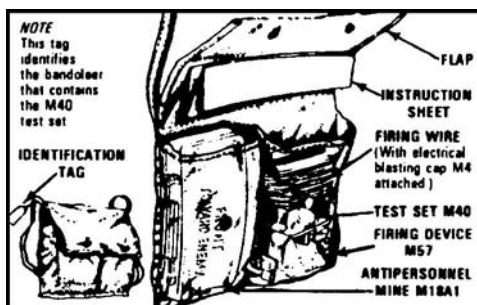

Figure 071-325-4425-1. Components of the M18A1 Claymore mine
1. Inventory and account for all accessories in the M18A1 Claymore mine bandoleer (figure 071-325-4425-1).